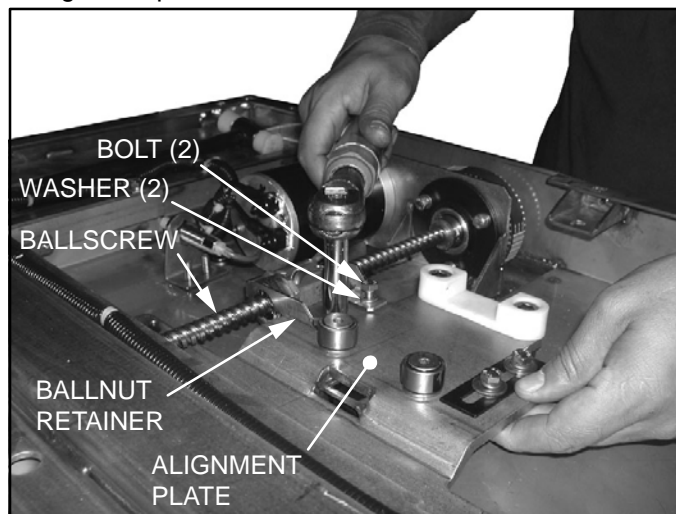

FIGURE 4-16: BALLNUT RETAINER
- g. Refer to **Figure 4-16**. Remove and retain two bolts and two washers that attach the ballnut retainer to the traveling frame alignment plate.
- e. Refer to **Figure 4-16**. Install two bolts and two washers that attach the ballnut retainer to the traveling frame alignment plate. Do not completely tighten.
- g. Refer to **Figure 4-16**. Remove and retain two bolts and two washers that attach the ballnut retainer to the travelling frame alignment plate.
- j. Refer to **Figure 4-16**. Install two bolts and two washers that attach the ballnut retainer to the traveling frame alignment plate. Do not completely tighten.
- g. Refer to **Figure 4-16**. Remove and retain two bolts and two washers that attach the ballnut retainer to the travelling frame alignment plate. Retain ballnut bracket.
- f. Refer to **Figure 4-16**. Install two bolts and two washers that attach the ballnut retainer to the traveling frame alignment plate. Do not completely tighten.